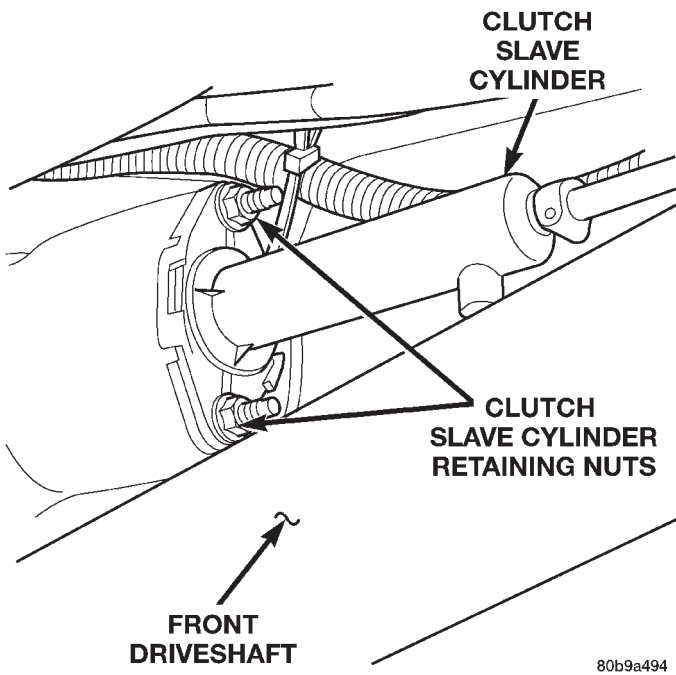

Fig. 23 Clutch Slave Cylinder
(15) Install the clutch slave cylinder on the clutch housing, making sure the cylinder pushrod is properly aligned with the clutch fork (Fig. 23).